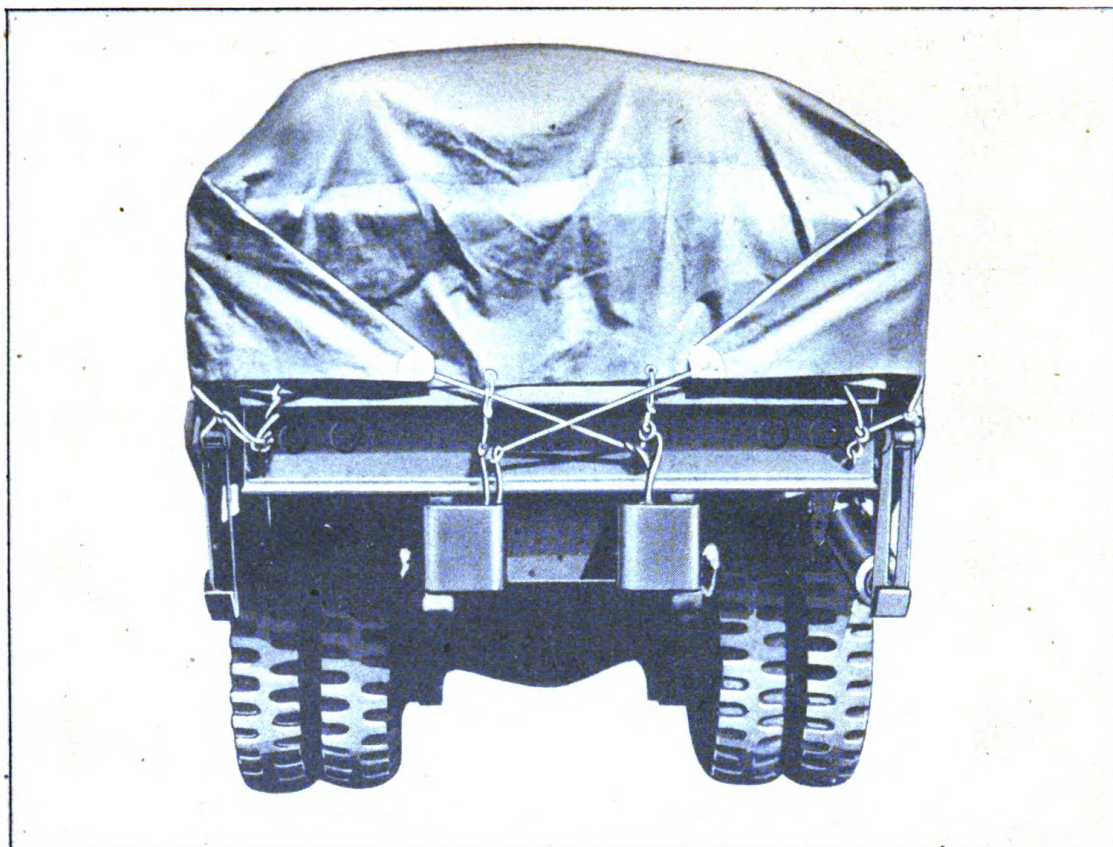

Figure 4. Rear View Showing Method of Attaching Tarpaulin
(3) A tarpaulin is provided to cover the entire load and is shown, together with a method of fastening, in Figures 4 and 5.